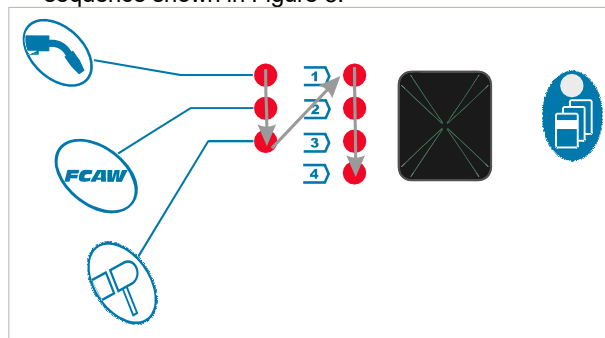

Figure 8
- Again, press the left button [40] the welding programs indicator (41 or 42) will pass to the next program in the sequence shown in Figure 8.